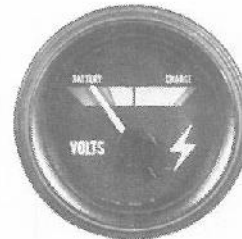

Figure 7: Left Hand Red Band (B)
B. Switch in ON engine not running (Fig. 7)